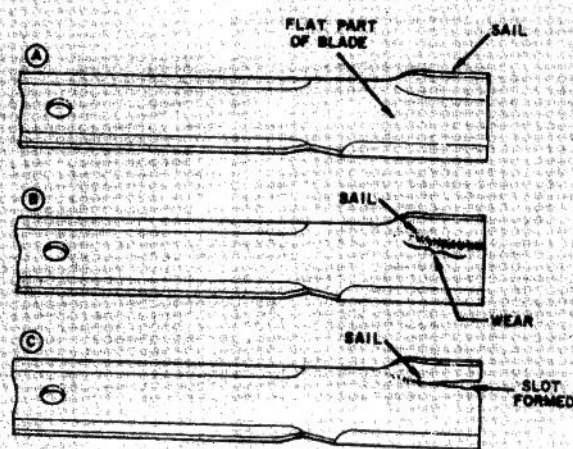

Figure 35
Stop the machine and examine the cutter blades for damage and loss of torque of the nut securing the blade to the spindle shaft whenever the blade strikes an immovable object. Open the hood and disconnect the spark plug lead, engage the parking brake and disengage the cutter blades prior to examining the blades. If blades are cracked, badly bent or twisted or severely eroded (Fig. 35), replace the blades. Always use genuine Toro replacement blades to assure safety and optimum performance. **NEVER USE WILL FIT REPLACEMENT BLADES.**
14. In sequence, install blade, and lock nut (Fig. 35). Tighten lock nut to 50-60 ft-lb (68-81 N·m).
IMPORTANT: Make sure cutting edge of blade is away from top of mower housing (Fig. 35). While lock nut is tightened, move blade slightly so it seats between sides of blade retainer.